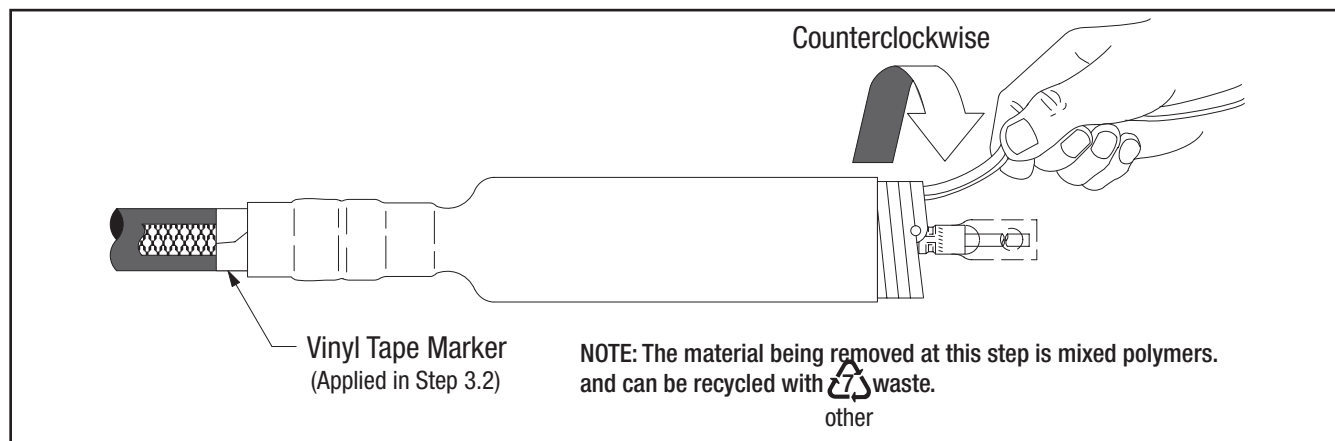

Figure 7
- 6.1 Slide the termination body onto the cable and remove core. Make sure the termination body (not the core) is butted up to the edge of the vinyl tape marker previously applied in Step 3.2 (Figure 7). Pull the core while unwinding, counterclockwise, starting with the loose end (Figure 7). Be sure to alternate the pulling and unwinding actions (pull-unwind-pull-unwind-etc.) to help prevent the core material from binding up as the core is being removed.